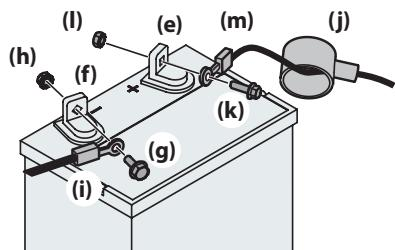

Figure 21
- NOTE:** The positive battery terminal (e) is marked POS. (+). The negative battery terminal (f) is marked NEG. (-). See Figure 21.